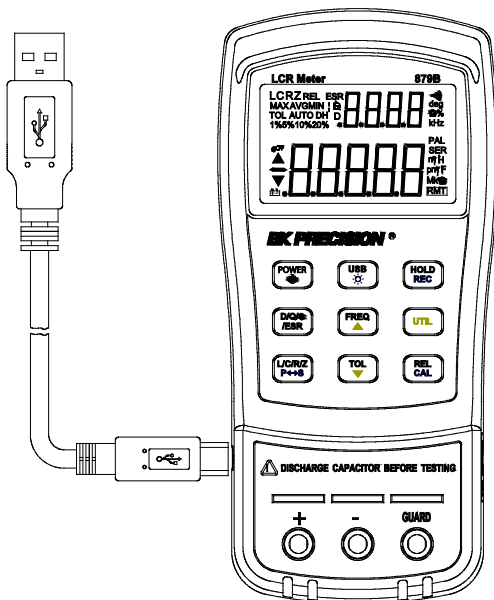

Figure 14 - USB Connection
2. With the included mini USB cable, connect the mini USB end to the LCR meter and the other end to an available USB port on the PC (see Figure 14).